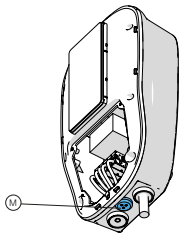

Fig. 3b
- For **Dazebox Home and Share T / S / TK / SK**, shown in Figures 3b, 3c, 3d, 3e, 3f, 3g, 3h, 3i, 4b, 4c, 4d, 4e, 4f, 4g, 4h, 4i, the shielded network cable passes through a hole in the cable entry membrane (M).